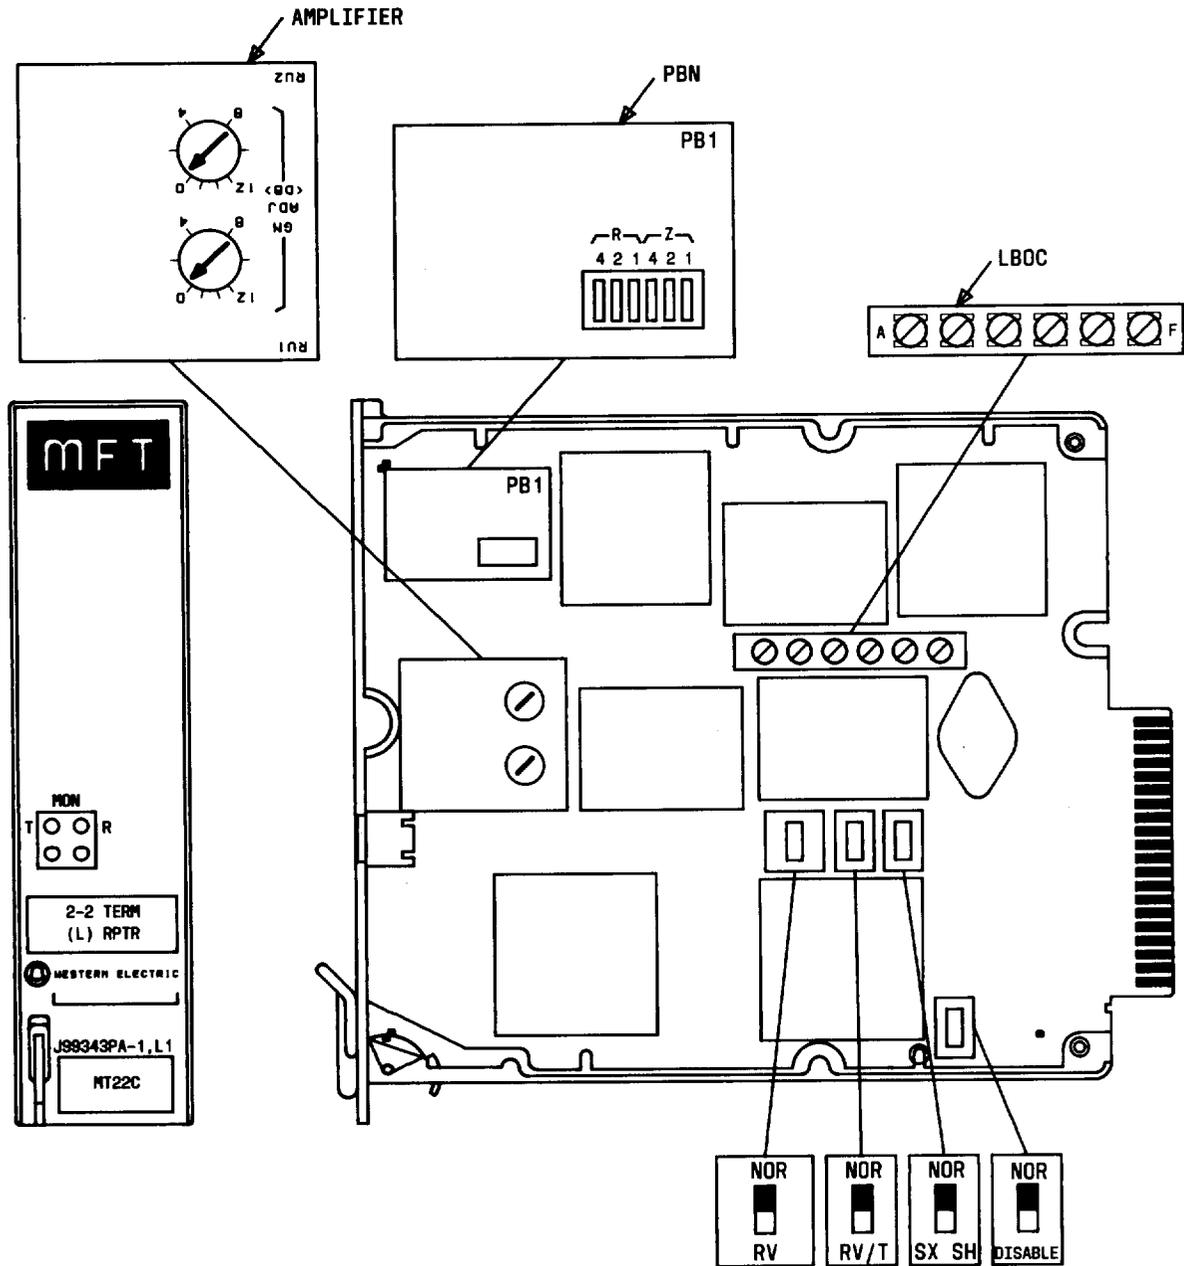
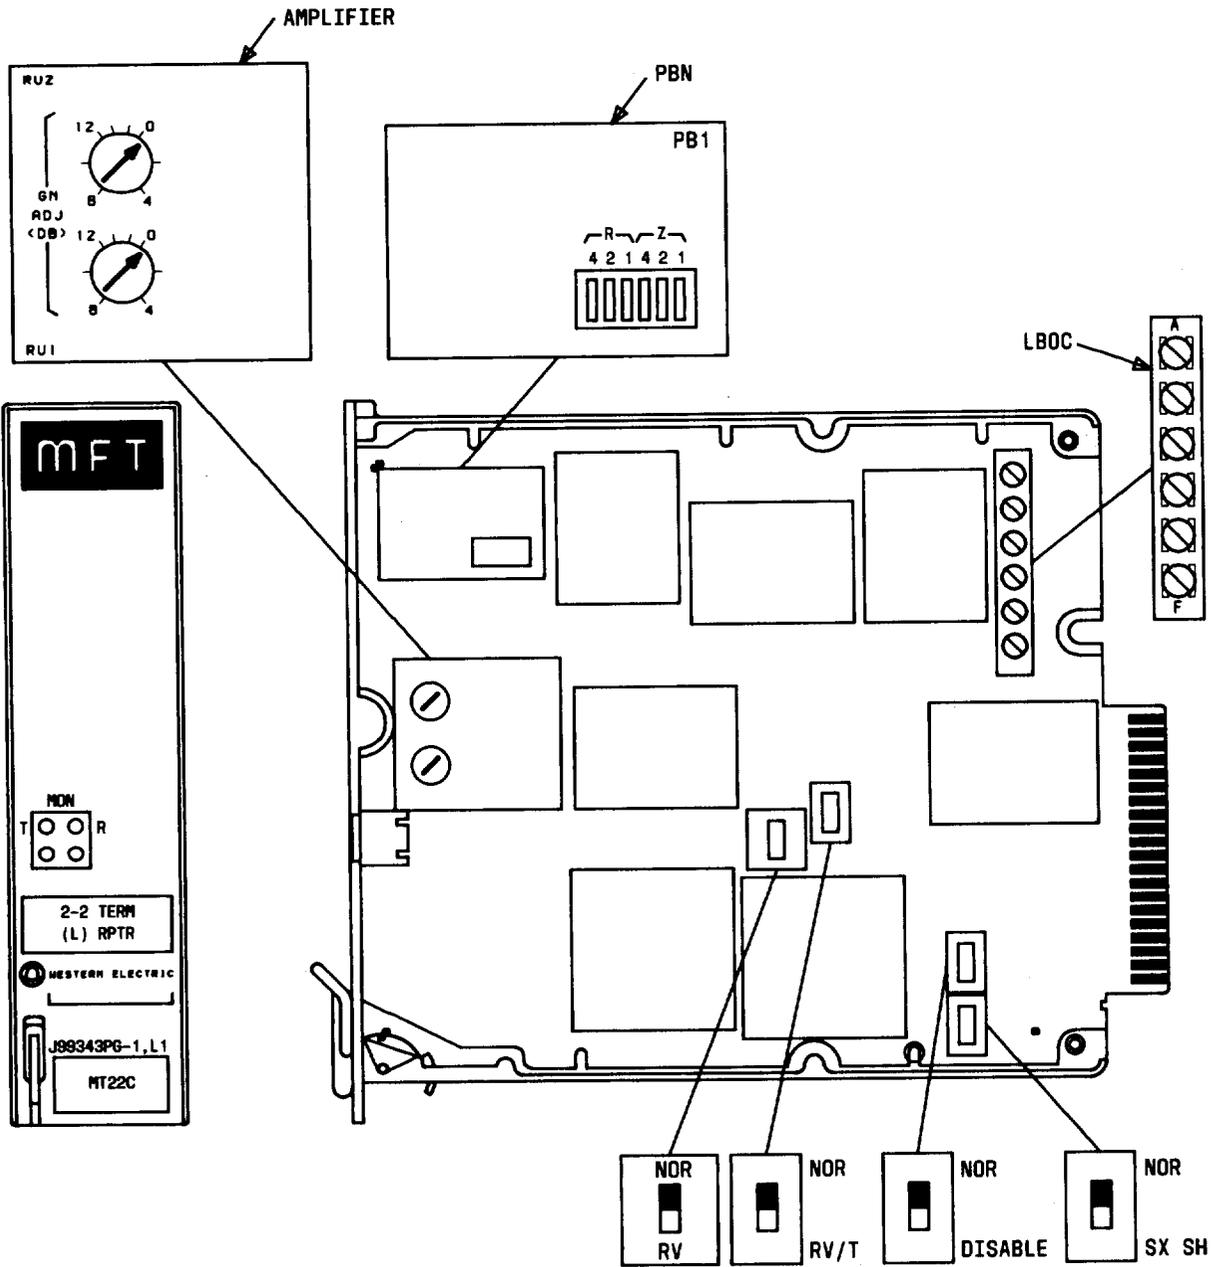
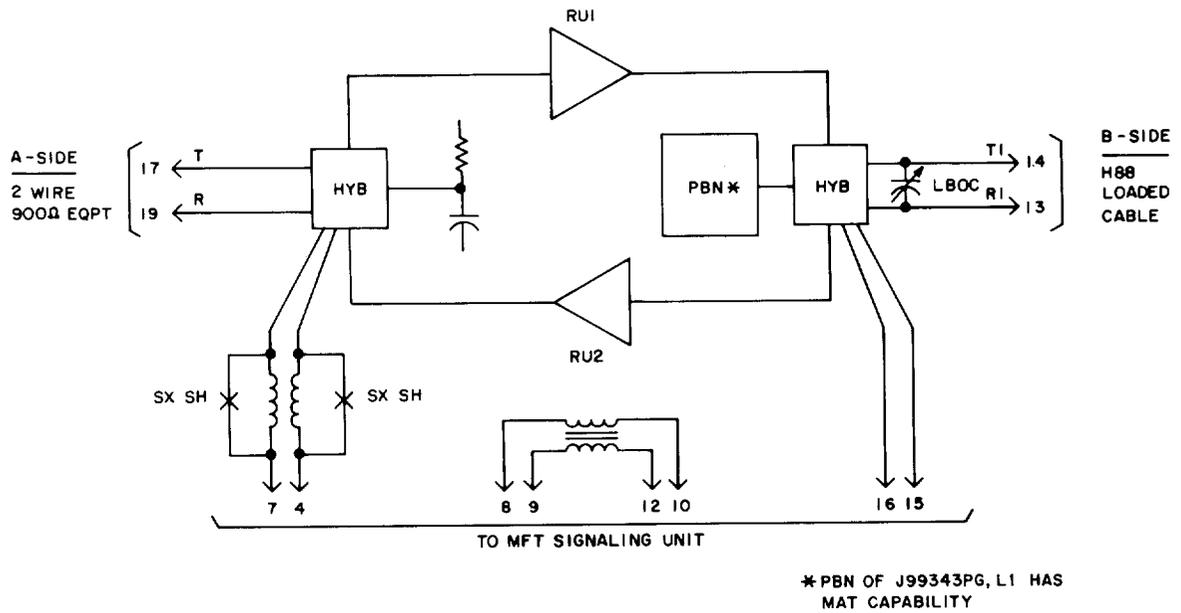

Fig. 1 — J99343PA Component Layout
Fig. 2—J99343PG, L1 Component Layout
Fig. 3—J99343PA, PG L1 Block Diagram
2.01 The J99343PA is shown in Fig. 1 and the J99343PG, L1 is shown in Fig. 2. They provide gain and equalization on 2-wire circuits between terminal equipment and loaded facilities. Figure 3 shows a block diagram of these units.
2.08 In the following paragraphs, the rocker-type switches for a particular function are operated when depressed toward the respective designation. The sum of the values of the switches operated is the setting for that function. The unit controls are illustrated in Fig. 1 and 2.